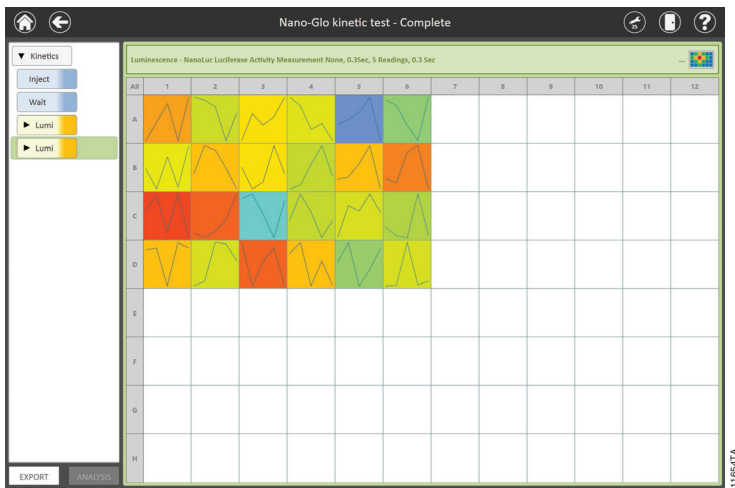

Figure 57. Results plate map for kinetic data.
Kinetic results display a graphical representation of the data during the course of the kinetics read (Figure 57). Data are automatically scaled based on the results within each well. Zoom in to view the axis for each well as desired. Users can use touch-screen gestures to zoom in or out, or to pan the well map.
- To analyze data, tap the **Analysis** button (bottom left corner of screen in Figure 57). Analysis functionality is described in Section 3.F, Analysis of Results. For certain result types (e.g., Basic protocols containing kinetic reads as well as Time Course protocols), the **Analysis** button will be inactive because analysis is not supported for these protocol types.
- To export data, tap the **Export** button (bottom left corner of screen in Figure 57). The software will export the data to the manual export folder specified by the Administrator settings (see Section 3.H, Administrator Settings). Results generated from Time Course Protocols are automatically exported to the PC in .csv format, not within the GloMax[®] Software. The Results screen provides a link to the file pathway where the results are stored. When interfacing with a laboratory information management system (LIMS), we recommend using the .csv file and importing according to your LIMS software guidelines.